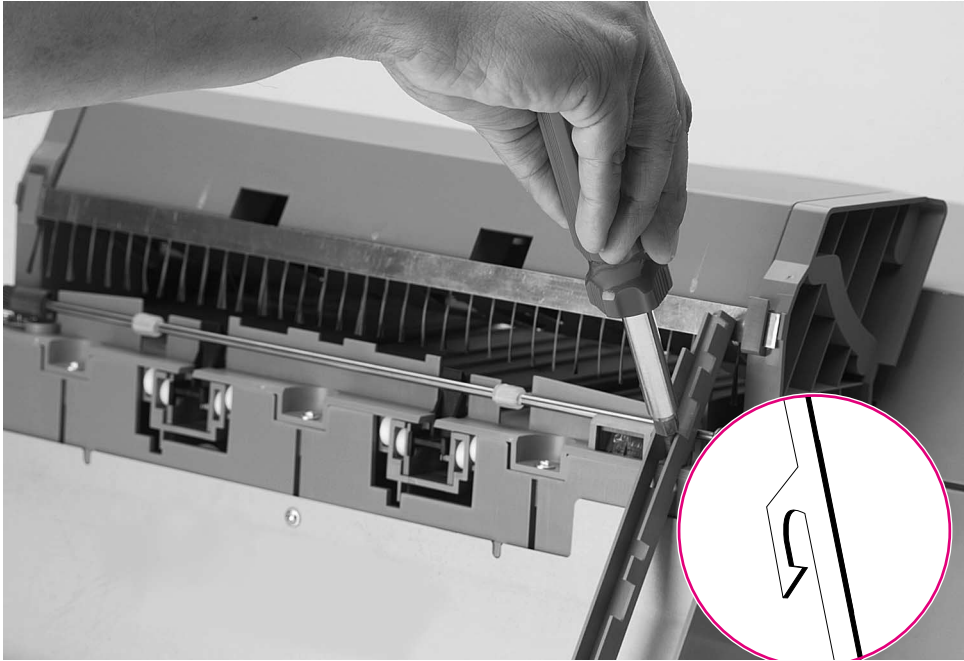

Figure 6-182 Back Plate (1 of 2)
- 2 Remove the Scan Bar by carefully pressing the tab on the scan bar backwards and downwards through the hole of the Stapler Bed (see figure 6-182) with a flat-tip screwdriver, then lift the bar.
- 2 Remove the Back Plate (see figure 6-182).
- 2 Open the Top Cover Assembly, and remove the Back Plate (see figure 6-182 on page 469).
- 2 Remove the Back Plate (see figure 6-182 on page 469).